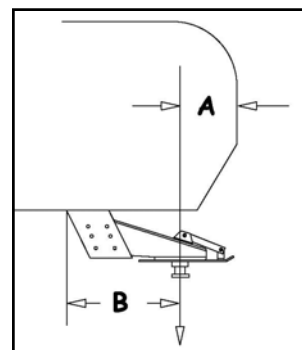

Figure 1
- As a general rule, for the SuperGlide hitch to maintain proper clearance to the truck, the leading edge of the trailer (measured at the corner) should be even with the center of the king pin. Most truck trailer combinations will allow 102" wide trailers if the king pin is located as described. Narrower trailers will allow the king pin to be "tucked" under the trailer over hang to some extent (Figure 1). Call PullRite technical support with trailer width, make and year of truck and distance the king pin is from leading edge of the trailer (Dimension A). (800) 443-2307.
- Using a trailer that has a long rear slope to the King Pin Box Hangar, "B" in (Figure 1), may cause damage to the trailer or truck bed during turns. Dimension "B" must be less than one half the width of the inside top edges of the bed.